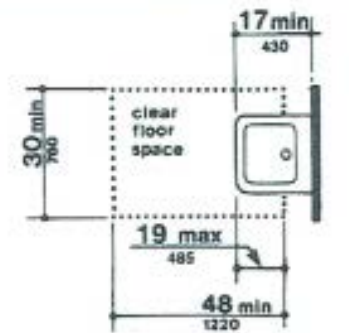

Fig. 32
4.24.5 Clear Floor Space. A clear floor space at least 30" by 48" (760 mm by 1,220 mm) complying with 4.2.4 shall be provided in front of a sink to allow forward approach. The clear floor space shall be on an accessible route and shall extend a maximum of 19" (485 mm) underneath the sink (see Fig.32)